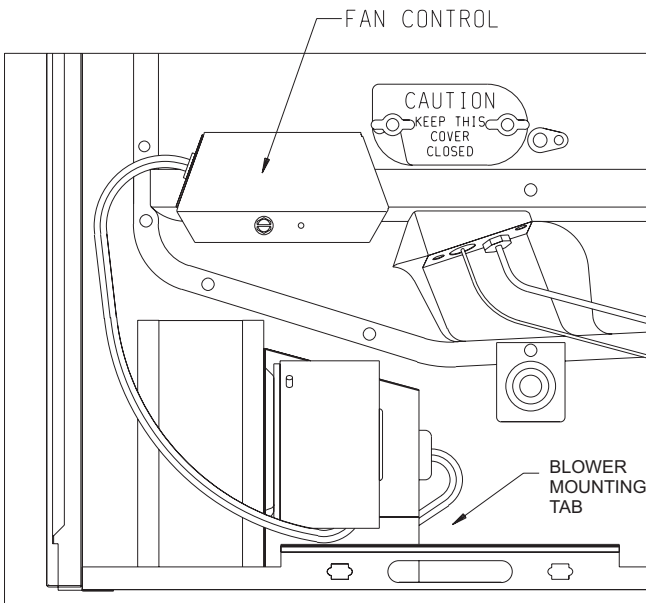

Figure 1
**INSTALLING OPTIONAL BLOWER DVB-1.** The blower must be positioned as shown in Figure 1. Relocate gas line, if necessary, using elbow fitting at the gas valve, and move Piezo Spark Generator to the next screw. A slot on the bottom of the blower package engages a tab on the bottom of the inner casing and is secured by one screw in front.